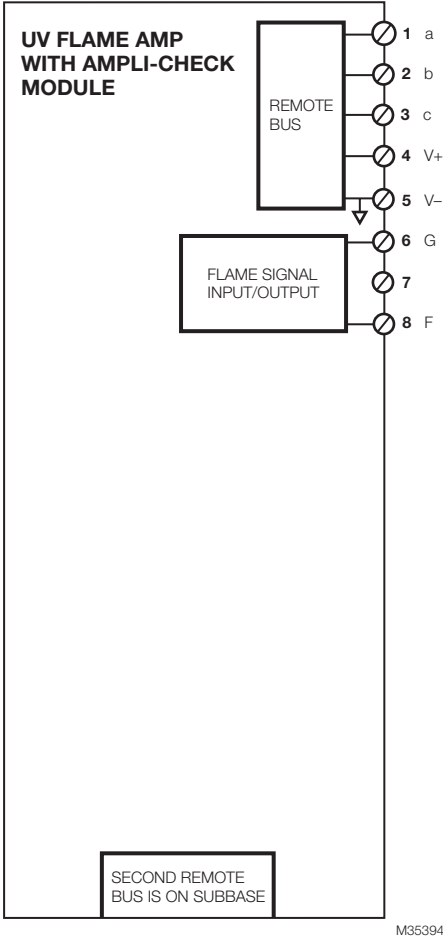

Fig. 4. R8001S1071 SLATE UV Ampli-Check Flame Amplifier wiring.
1. Refer to Fig. 4 for proper flame detector wiring.
- (1) Enclose scanner wiring without armor cable in metal cable or conduit.
- (2) Follow flame detector Instructions.
6. Check wiring, see Fig. 4.